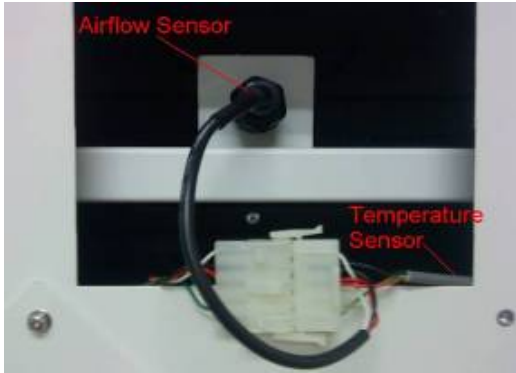
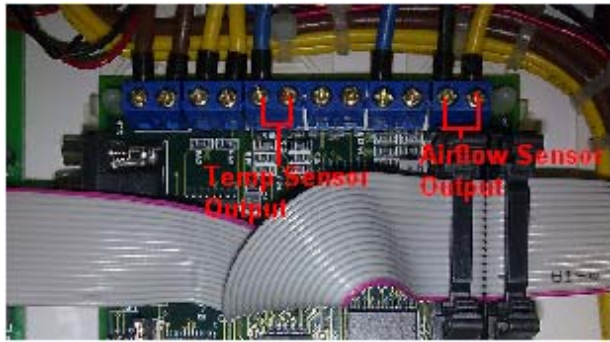

Figure 3-2 Sensor Back Panel Access
Figure 3-3
| <p>Sensor Failure /SensorMisalignment</p> | <p>A. Air Flow Sensor failure / misalignment</p> <ul style="list-style-type: none"> <li>• Airflow sensor is located inside the unit and can be accessed from the back. See figure 3-2 below. It is a stainless steel tube with 2 round holes facing up.</li> </ul> <p>Important to check:</p> <ol style="list-style-type: none"> <li>1. Ensure that the sensor area is not blocked at all and that its through-holes are perpendicular to the filter’s surface.</li> <li>2. Exhaust sensor is attached tightly to the mounting plate.</li> <li>3. There is no gap between sensor box and filter surface.</li> <li>4. Sensor box is installed tightly to the cabinet.</li> </ol> <ul style="list-style-type: none"> <li>• Turn off the cabinet.</li> <li>• See Component Layout to locate the main board.</li> <li>• Using DVM, check the sensor’s output voltage (DC) at channel AIN1(+) and J1(-) on main board (See drawing 3-3 below).</li> <li>• The voltage should increase if motor voltage is increased and decrease if motor voltage is decreased.</li> <li>• If your observation is different, check sensor connection on the unit (see figure 3-6 below) and at connector D pin 9,10,11,12 on electrical box (see Layout at the end of this section) for any bad/loose connection.</li> <li>• If connection is okay but sensor is still not working properly, replace it.</li> <li>• If airflow sensor is working properly, proceed to next step.</li> </ul> <p>B. Temperature Sensor Failure</p> <ul style="list-style-type: none"> <li>• Temperature sensor is located close to airflow sensor inside the unit. See figure 3-2.</li> <li>• Using DVM, check the temperature sensor’s output voltage (DC) at channel AIN4(-) and J4(+) on main board (See figure 3-3 below).</li> <li>• 0.01VDC should represent one degree Celsius. For example, if output is 0.25VDC, it indicates temperature of 25°C. Tolerance of ±1°C is acceptable.</li> <li>• Replace temperature sensor if the reading is wrong.</li> <li>• If temperature sensor is working properly, proceed to next step.</li> </ul> |